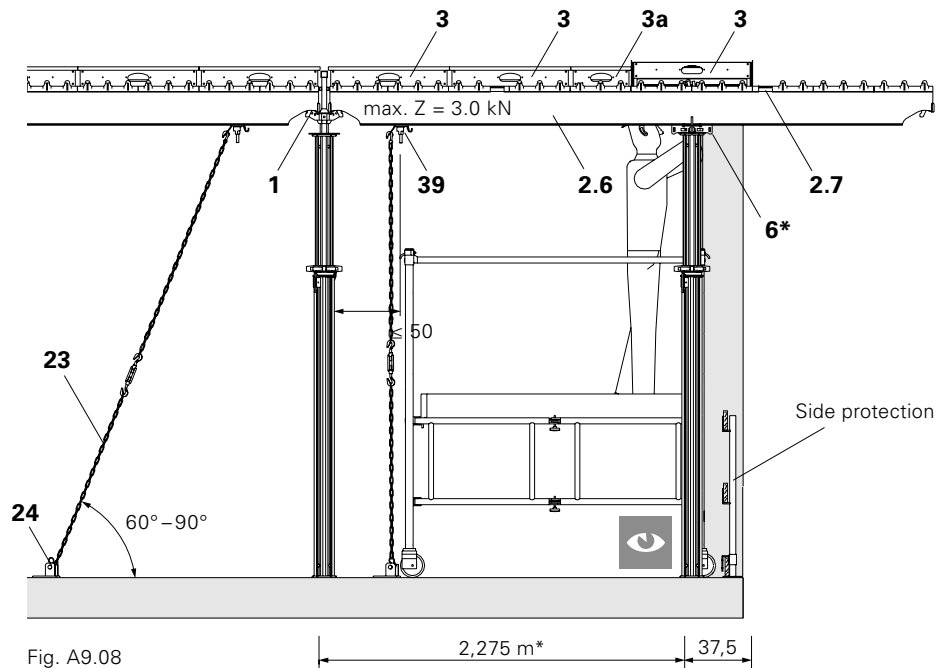

Fig. A9.08
1. Place prop with Drophead SFK (1) at slab edge and secure with tripod.
2. Connect Main Beam SLT 375 (2.6) and support by means of a second prop with Prophead SSK (6) after 2.275 m at the edge of the building. (Formed exclusively with prophead; position front prop at a distance of 2.25 m).
3. Mount Tension Sleeve SAO (39) in the main beam groove. Distance  $\leq 50$  cm from the non-cantilevered end.
4. Attach tension chain (23) with turnbuckle to the eye at the top, and anchor to the ground by means of a base plate (24). (Fig. A9.08)
5. From below, bay by bay immediately install 3 Panels 150 x 75 (3) and 1 Filler Panel 150 x 37.5 (3a) as far as the platform support (2.7) of the Main Beam SLT 375. For example, with the PERI Stripping Cart ASW 465.
- Are the props in line with the props of the corner table? (Fig. A9.08)